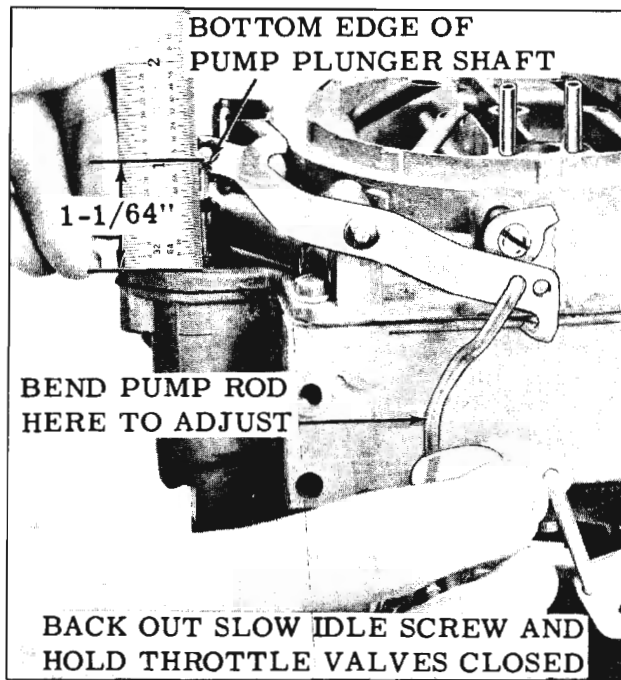

Fig. 9-28 Pump Rod Adjustment
1. While holding the throttle valves closed, idle speed screw backed out, measure the distance from the top of the air horn casting to the bottom edge of the pump plunger shaft. It should be  $1-1/64''$ . (Fig. 9-28)